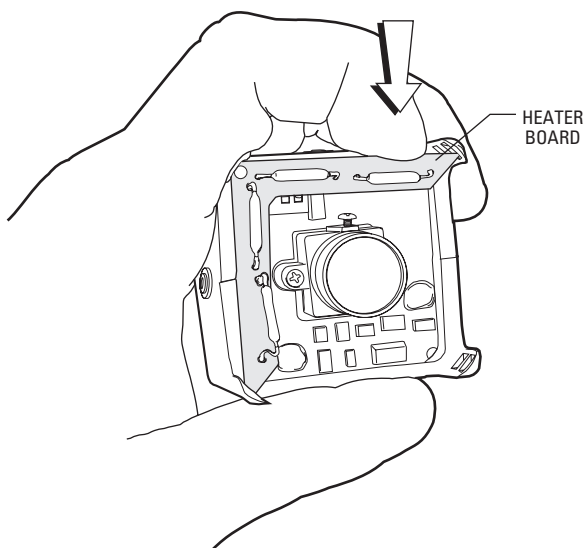

Figure 13. Removing Heater Board
1. Loosen the locking screw on the bottom of the lens. To loosen the screw, it may be necessary to remove the heater board. Refer to Figure 13 and the accompanying steps.